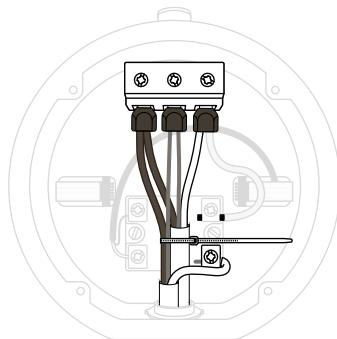

Figure 5.10
14) The secured wires should look as shown in Figure 5.10. Trim off any excess tie material using diagonal cutters.